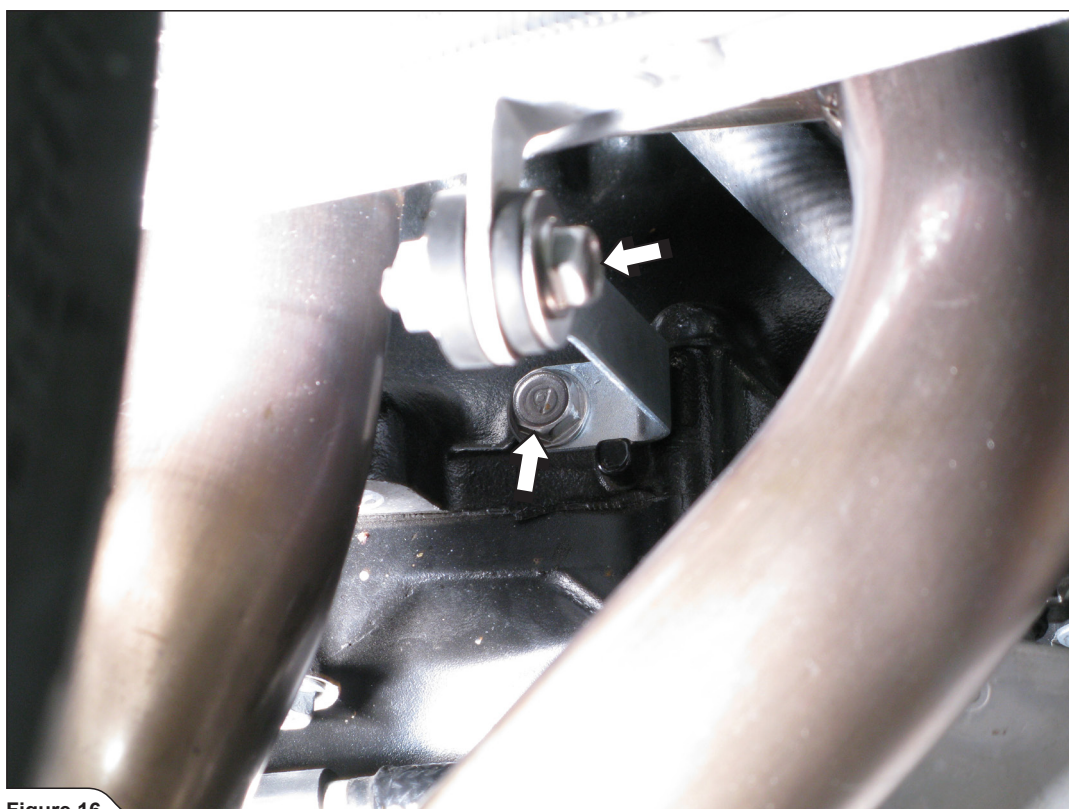

Figure 16
10. **For Optional Headers only:** unscrew the marked bolts and remove the cooler's bracket off the motorcycle (**Figure 16**).